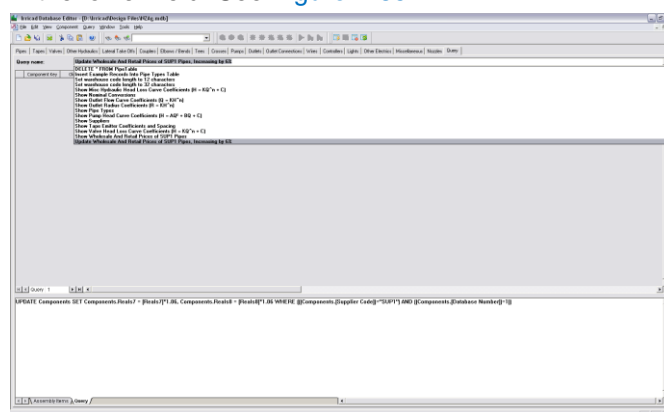

Figure 2-85
4. Once the query has been selected, the formula will be displayed in the lower field. See Figure 2-85.